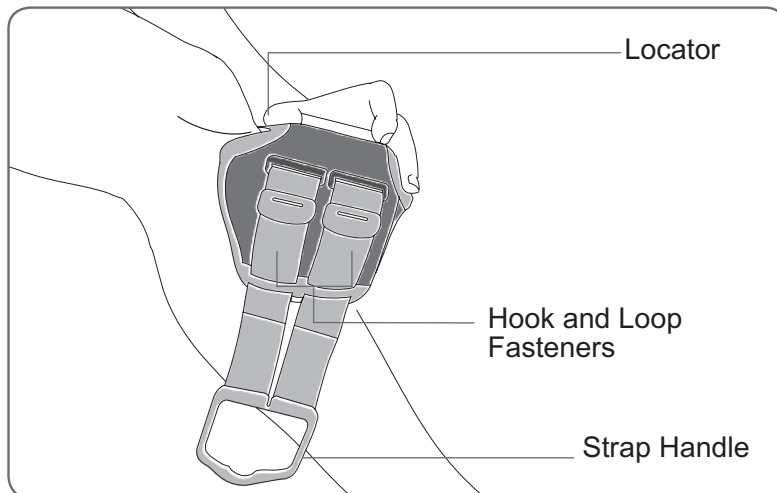
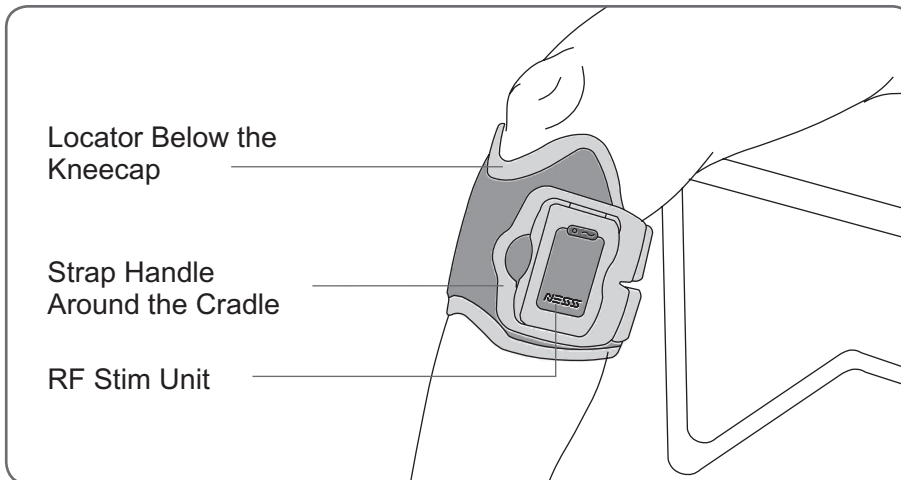

Figure 5: Tilting the FS Cuff for placement on your leg.
Figure 7: FS Cuff fastened on the right leg.
4. Make sure the electrodes are attached to the electrode bases. Then, grasp the front of the FS Cuff by the cradle and tilt the bottom of the FS Cuff up. Slide the locator up your leg until it rests snugly and comfortably below your kneecap. See Figure 5.
7. Make sure the FS Cuff is correctly positioned. See Figure 7. If it is not, take off the FS Cuff and reposition it. Adjust the hook and loop fasteners (see Figure 5) to ensure a snug fit.